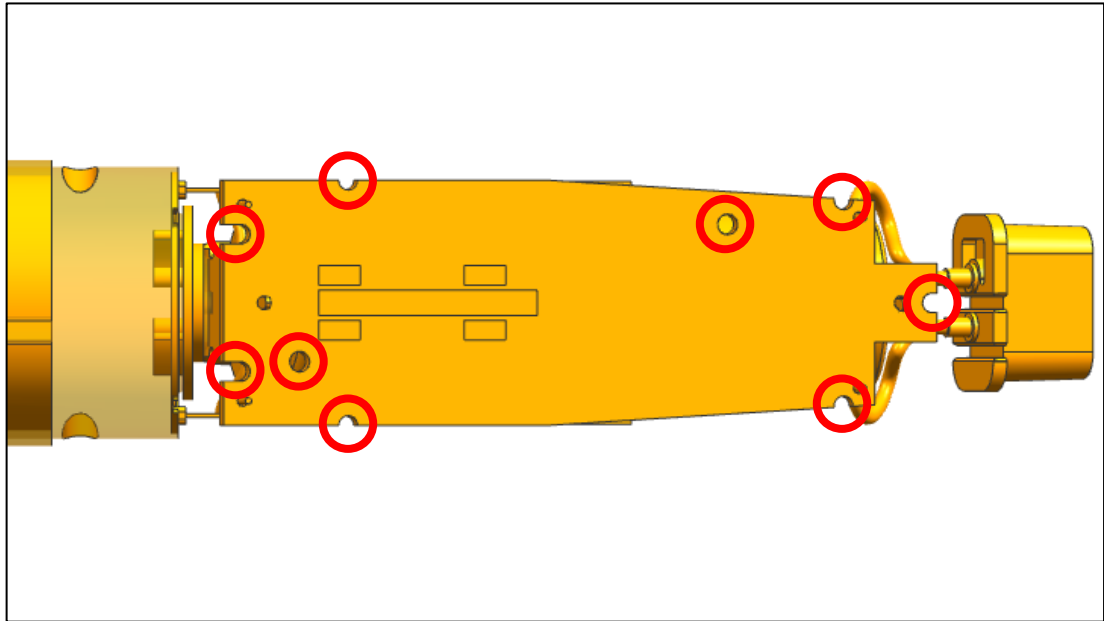
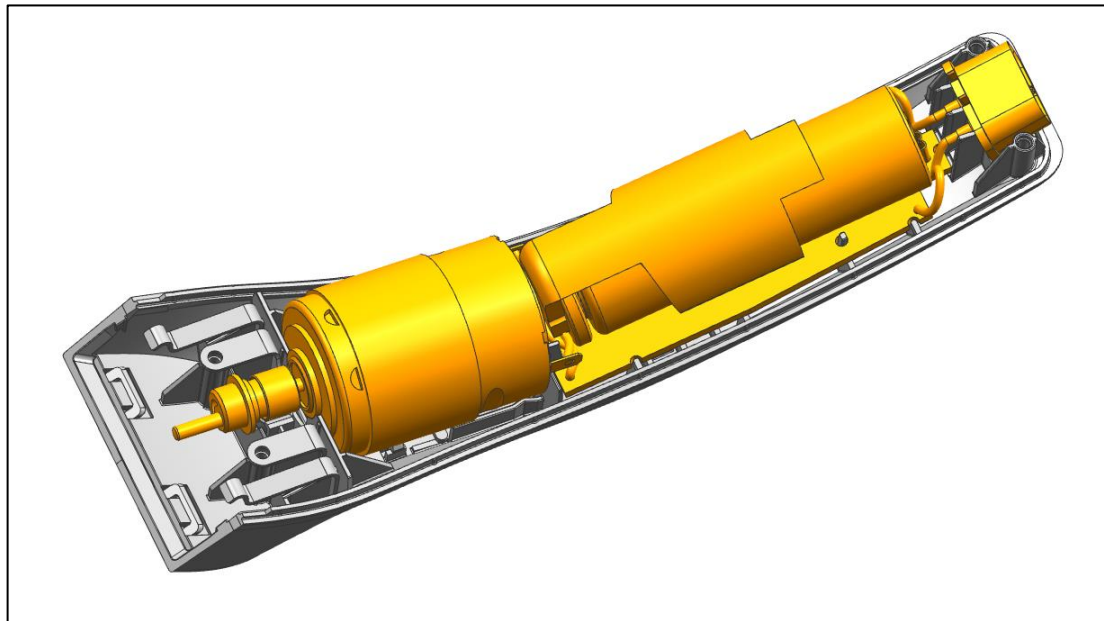
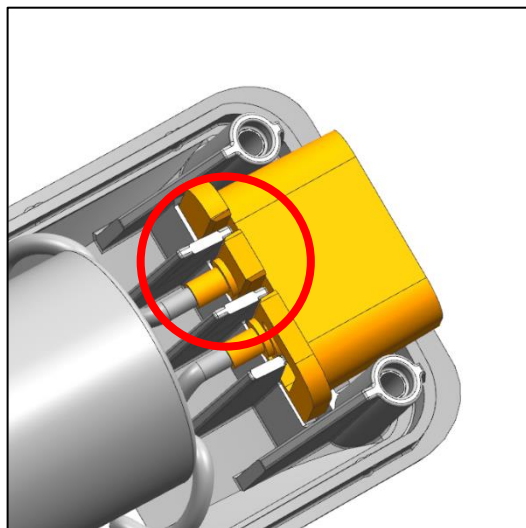

Fig. 32
Fig. 34
Fig. 35
- a) Position the circuit board in the rear part of the housing. Note the provided ribs and pins on the housing and the holes on the circuit board (Fig. 31a, Fig. 32, Fig. 34).
- b) Now, position the motor at the front of the housing, in the half shells of the provided ribs (Fig. 31b, Fig. 34).
- c) Finally, position the plug socket in the correct position in the housing (Fig. 31c, Fig. 34, Fig. 35).